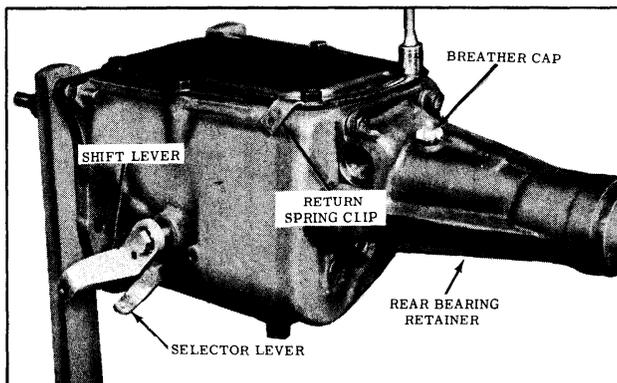

Fig. 11-5 Disassembly of Transmission
2. Remove transmission cover and gasket, toggle spring, spring clip and spring extension. (See Fig. 11-5 and 11-7)